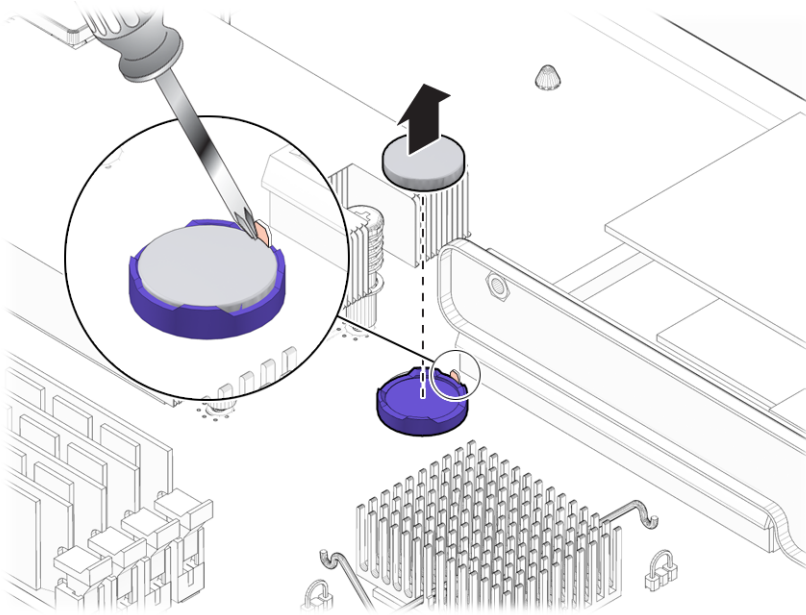

FIGURE 4-30 Removing the System Battery
2. Pry the battery out of the system with a screwdriver as shown in FIGURE 4-30.